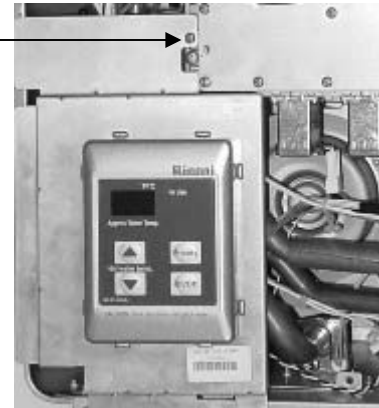

Figure 1
4. On indoor models, remove the bracket holding the controller (1 screw). (Figure 1)
5. Move aside the ignition line by pulling it out from the clear plastic tubing. (Figure 1)